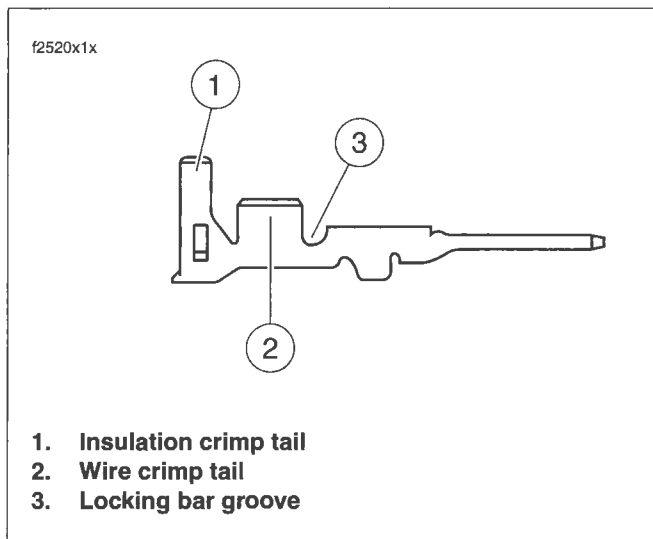

Figure B-6. Pin Terminal
2. See Figure B-6. and Figure B-7. Select the pin/socket terminals from the parts catalog and identify the insulation crimp tails (1) and the wire crimp tails (2) and the groove for the crimp tool locking bar (3)
See Figure B-6. and Figure B-7. Hold the terminal with the insulation crimp tail (1) facing up. The tool will hold the terminal by the locking bar groove (3) and crimp the wire crimp tail (2) around the bare wire of the stripped lead and the insulation crimp tail around the insulation.